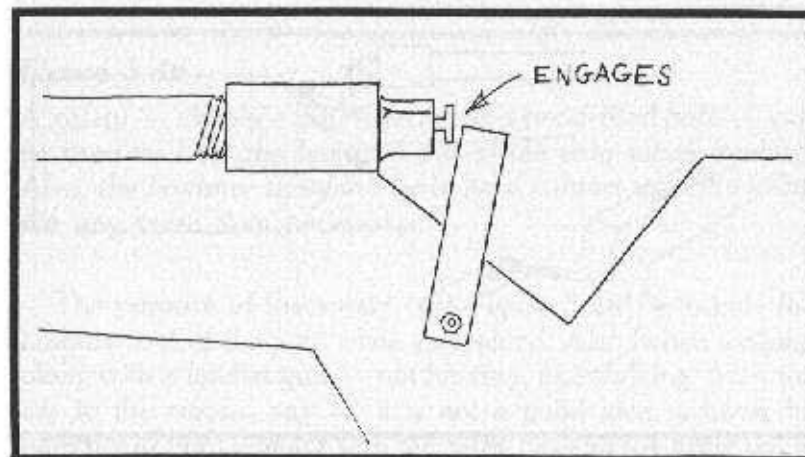

Figure 3-45
Assuming that the firing pin is satisfactorily centered in the breech plug, you should position the hammer such that it (1) engages the firing pin and (2) has its pivot point directly under the firing pin. Mark the pivot point, drill a 1/4-inch hole through the stock, and install the pivot pin ("I" on the parts list). See Figure 3-45.